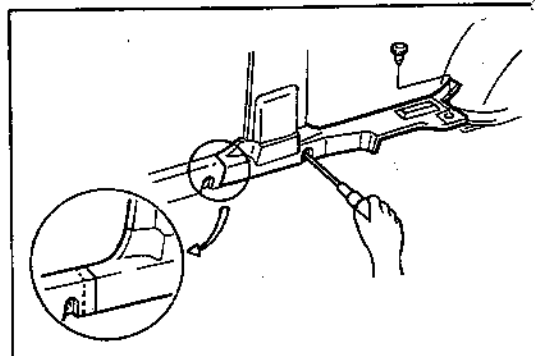

Fig. 9-287
1. Remove the rear door scuff plate. (See Fig. 9-287.)
2. Remove the one screw and two clips (A).
3. Detach the four clips (B), using a common screwdriver.